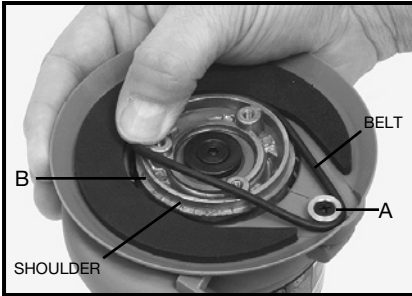

Fig. 10
4. Position the new belt around pulley (A) Fig. 10, and start it onto the shoulder of the pad support (B).